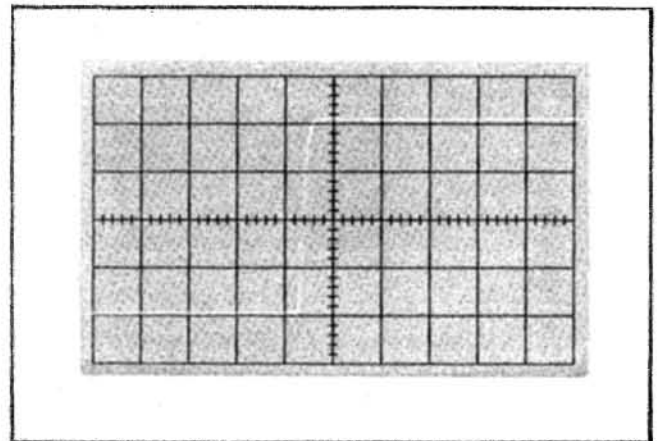

Fig. 5-3. Typical CRT display showing correct high-frequency compensation.
- e. CHECK—CRT display for optimum square-wave response similar to Fig. 5-3 with peak aberrations not to exceed +2% or -2%, or total aberrations not to exceed 3% peak to peak.